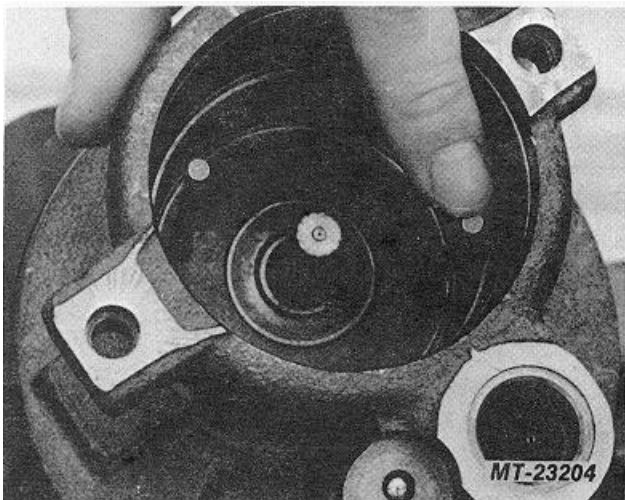

Fig. 25. Install Dowel Pins
3. Insert two dowel pins into housing - press on pins to seat fully (Fig. 25).